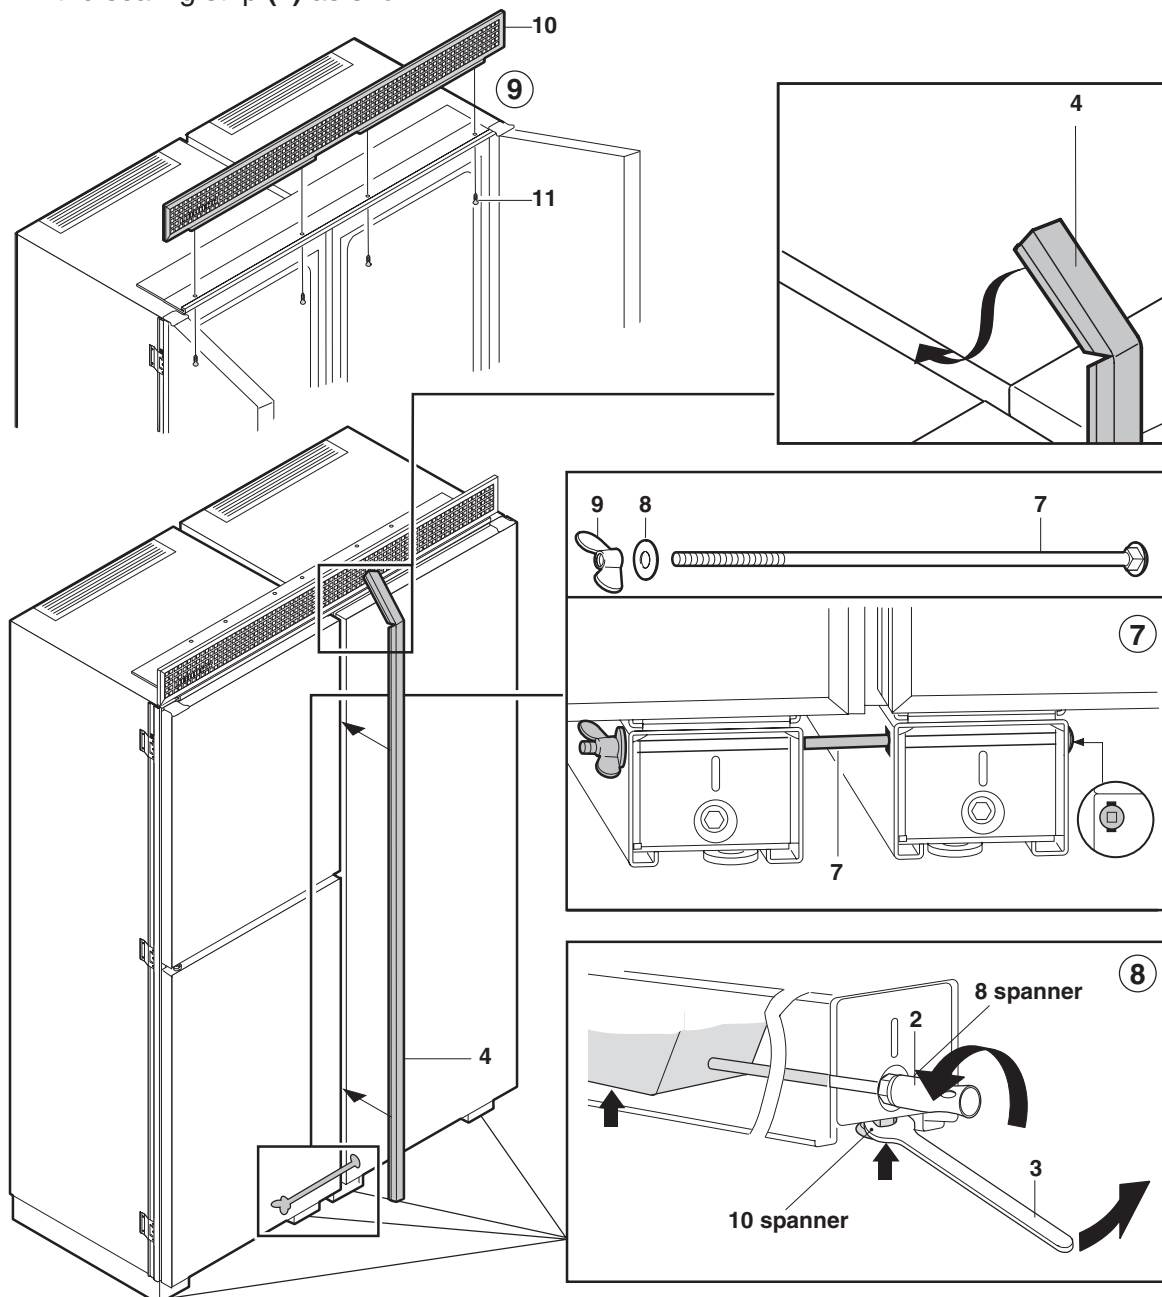

Figure 27
- Figure 27:** Push the long carriage bolt M5x260 (7) through the leveling wheels as shown. Fit in a washer (8). Screw on the wing nut (9) and tighten it *manually*. Do not overtighten.
- Secure the ventilation grille (10) to the appliance with screws (11).